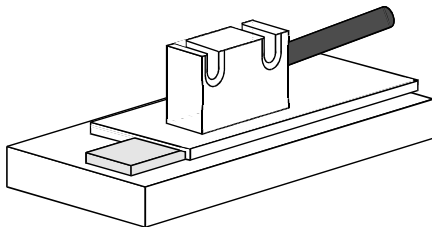

figure 6
- Cover the tape with PS1 profile (fig. 6) and make attachment holes along the profile's groove without damaging the tape.